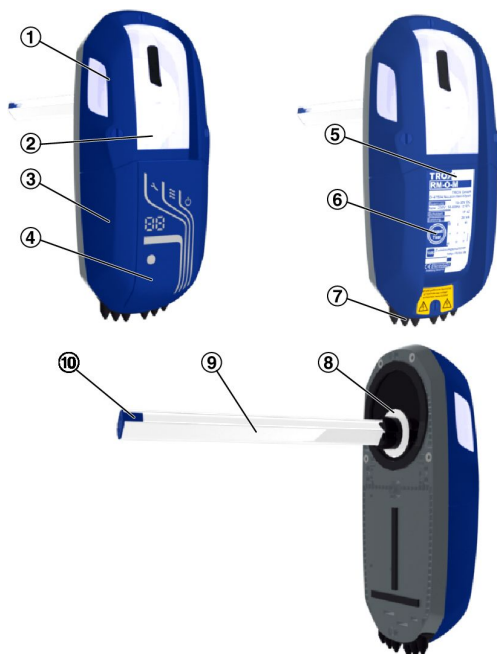

Fig. 3: RM-O-M with air guide profile
- RM-O-M with air guide profile Fig. 3